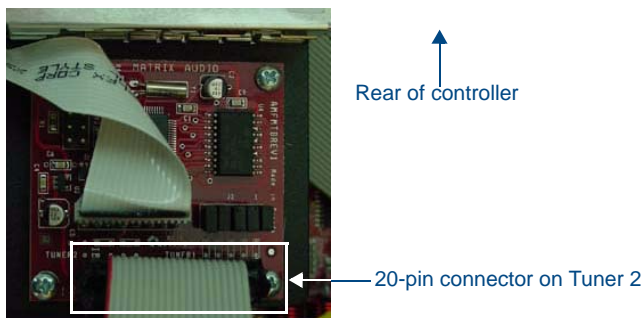

FIG. 67 Tuner 2 Module Connection
5. Connect the "Slot 1" connector on the ribbon cable to the Tuner 2 module (FIG. 67). The ribbon cable must be oriented so that the red stripe is connected to Pin 1 on the connector.